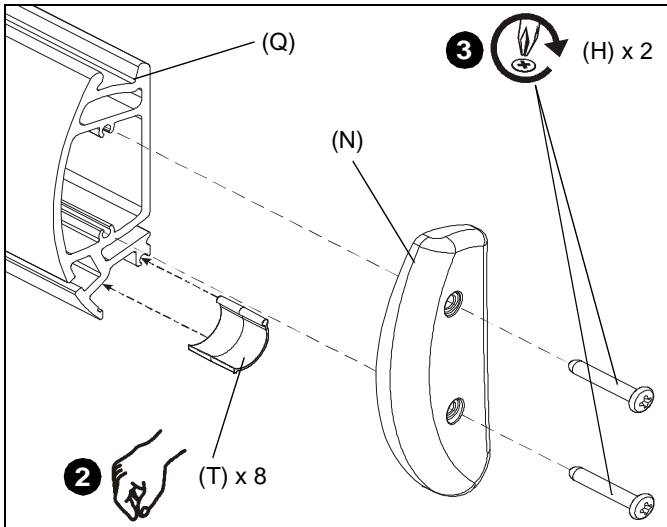

Figure 11
2. Add eight cord clips (T) to wall mount (Q) by sliding clips into the end of the wall mount. (See Figure 11)
3. Fasten right end cap (N) to right end of wall mount (Q) using two 08 x 1" Phillips sheet metal screws (H). (See Figure 11)